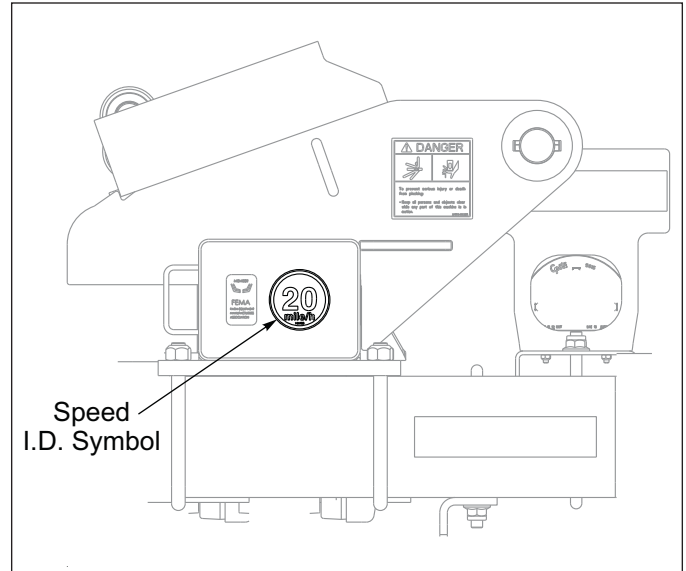

Figure 3-11: Speed Identification Symbol
2. The Pulvi-Mulcher should be transported only by tractor required for field operation. The implement weight should not exceed more than 1.5 times the tractor weight. Maximum transport speed for the Pulvi-Mulcher is 20 mph and is designated on the speed identification symbol located on the left front of the implement. **See Figure 3-11.**